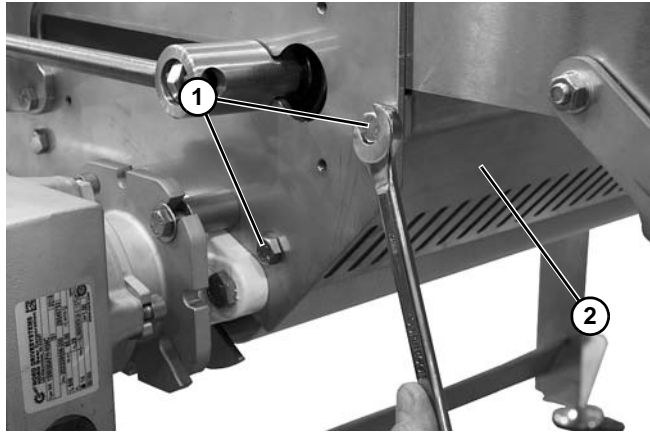

Figure 99
5. Remove two screws (**Figure 99, item 1**) from each side of the center drive. Remove the stationary guard assembly (**Figure 99, item 2**).